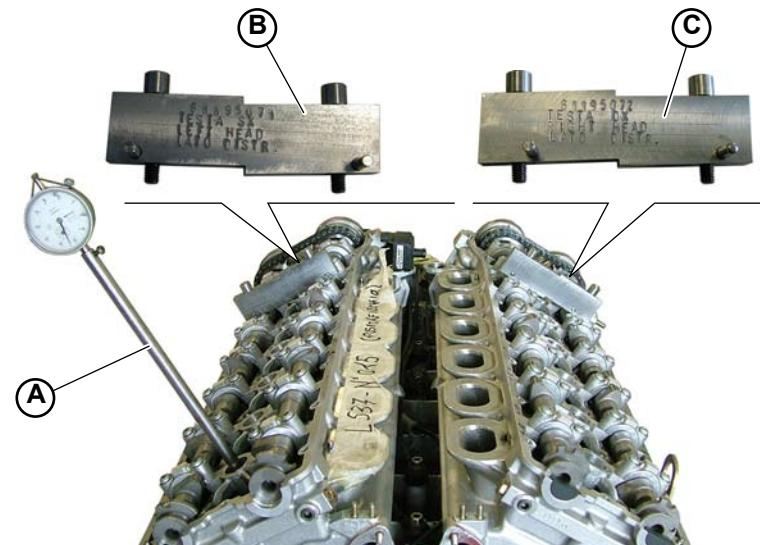

Fig.5
2. Assemble the dial gauge (A-Fig.5) on cylinder no. 1.
4. Assemble the timing tools on the heads (000200-12c), being careful to install the LH tool on the left head (B-Fig.5) and the RH tool on the right head (C-Fig.5).